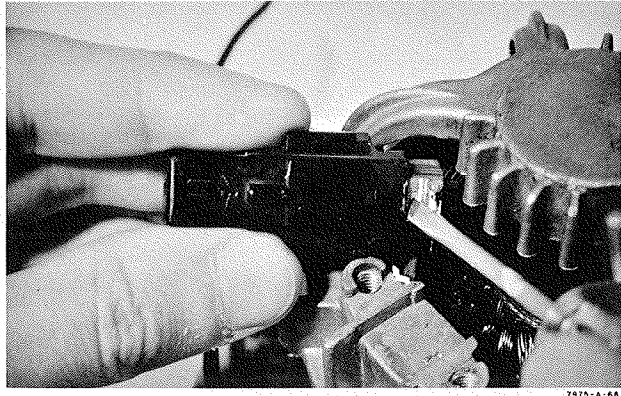

Figure 7-9. Removing Brush Connecting Clip
c. Pry connecting clip from brush holder, being careful not to strain or break wire (figure 7-9).